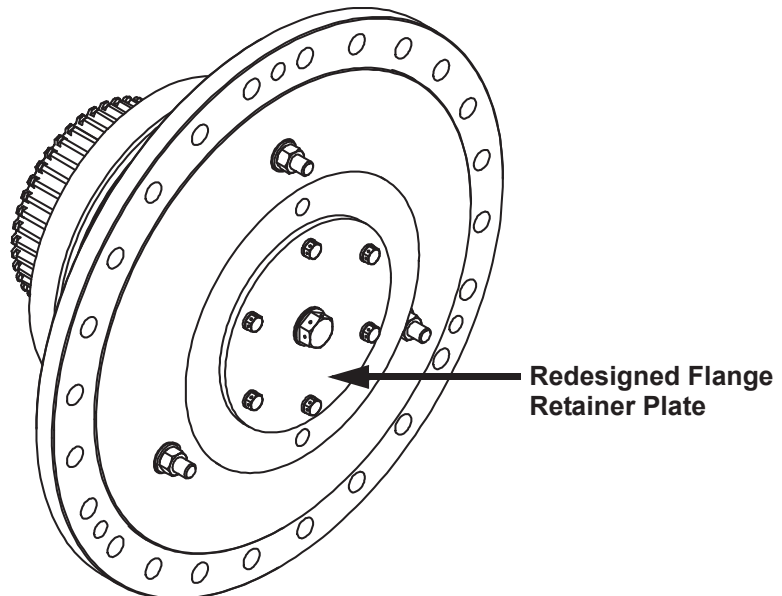

Figure 3: Flange Retainer Safety Wire Kit (Safety Wire Not Shown)
10. Replace with the AY19080 Flange Retainer Safety Wire Kit. (See Figure 3 and Figure 4 on page 6)